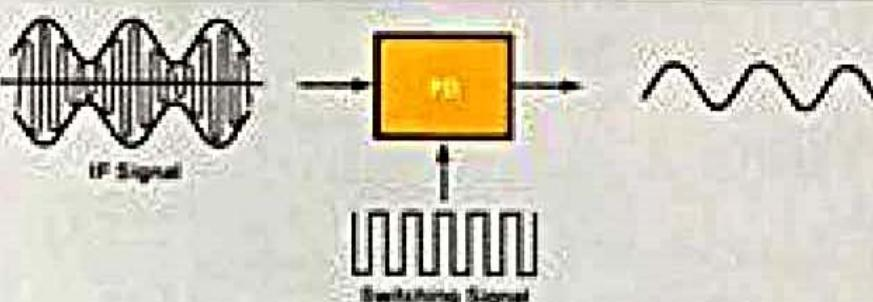
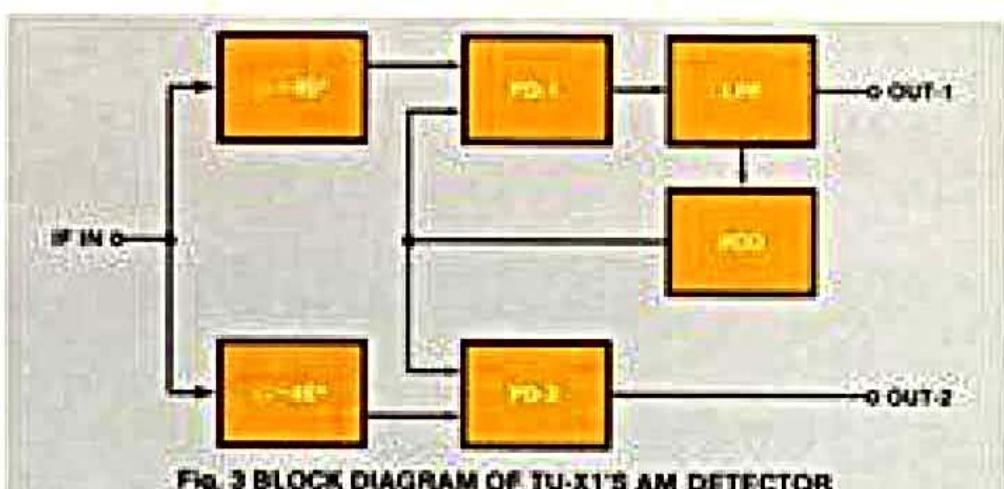

Fig. 2 CONCEPTUAL OPERATION OF SYNCHRONIZED PRODUCT DETECTOR
Fig. 3 BLOCK DIAGRAM OF TU-X1'S AM DETECTOR
Fig. 2 shows how the AM IF signal is switched with a signal of the same frequency and phase as the IF signal, and how better quality AM audio signals can be obtained. Fig. 3 shows the main elements of the Synchronized Product Detector—the PLL circuit is composed of the Phase Detector (PD), Low Pass Filter (LPF) and the Voltage-Controlled Oscillator (VCO). It generates signals of the same frequency as the input IF signal with phase locked.